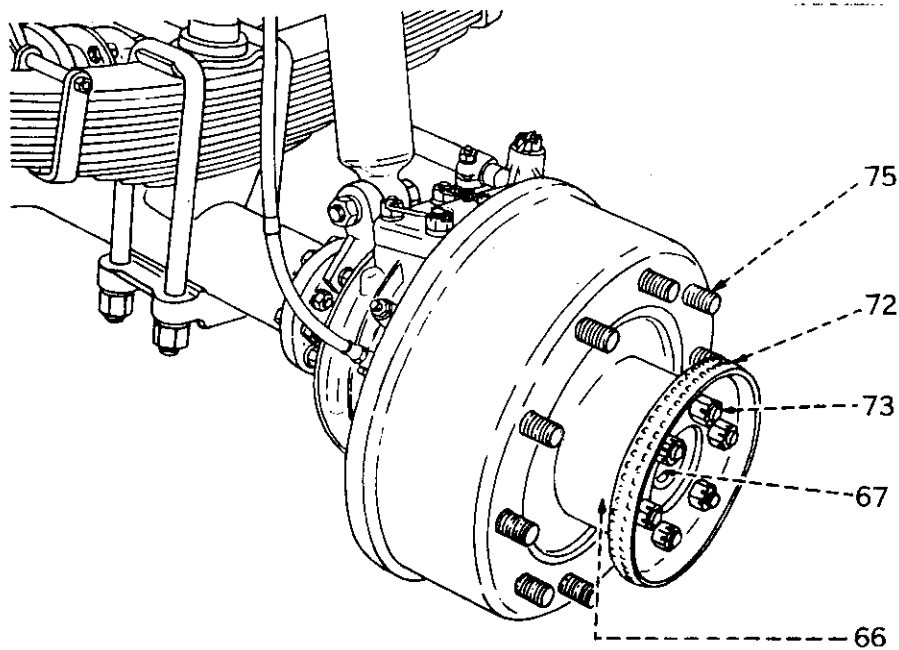

FIG 8 - LEFT HAND FRONT WHEEL
- b. Remove the six slotted lock nuts located in the sling ring from the driving studs which will allow the sling ring to come free (item 72, fig 8).
LEGEND TO FIGS 8 TO 14